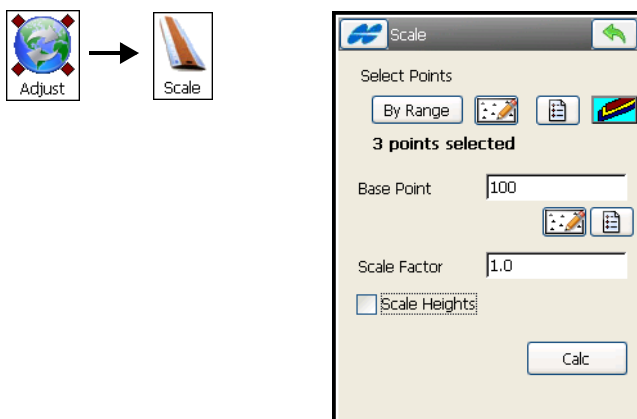

Figure 10-24. Scale
The **Scale** task scales the distances of a range of points relative to a Base Point. On the **Scale** screen (Figure 10-24), do the following:
1. Select the points for the task. In the *Select Points* field, tap the **By Range** button and set the range of the points names, or select points for the scaling task on the map or from the list (Figure 10-24).